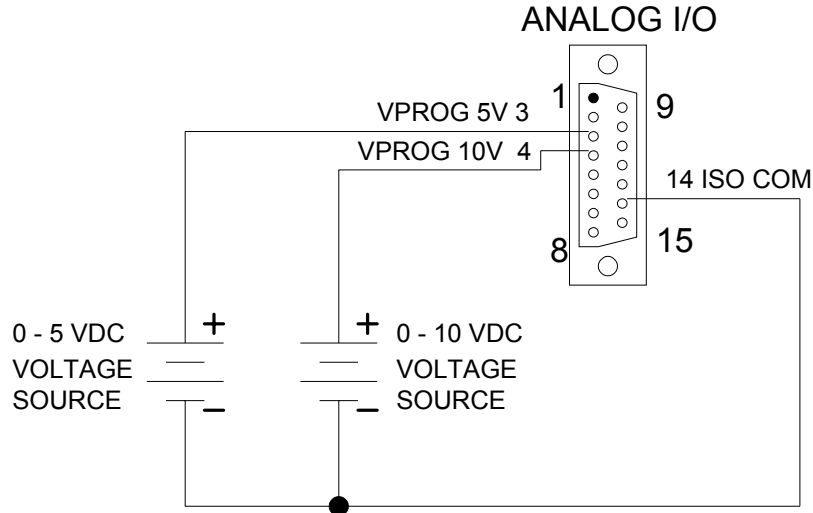

Figure 5-1: Remote Voltage Programming Using 0-5 or 0-10 VDC Source
1. External Voltage Programming Using a 5 VDC or 10 VDC Voltage Source. A DC voltage source for remote voltage programming is connected between pin 5 (V PROG 5V) or PIN 7 (V PROG 10V) and the return terminal PIN 12 (ISO COM). To program voltage slightly above the rated output will not damage the unit, but degraded performance may result. Figure 5-1 for connection requirements.